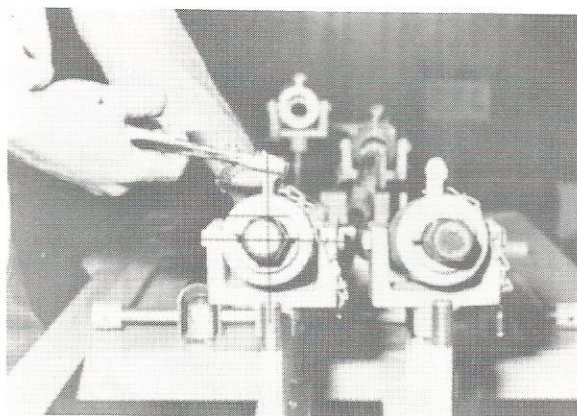

fig. 9
Note: On new tools, two sides of the shank hexagon are parallel to two of the four sides of the tool tip. If a moil point has been ground by hand, this alignment may have been altered. If this has been the case, position the side of the shank hexagon which is best aligned to one of the four sides of the tip, parallel to the grinding wheel surface. (See fig. 9.)
7. Tighten thumb screw. Use pliers and tighten firmly. To insure proper tightening, make sure that the split in the split halves is at 90° to the axis of the thumbscrew. (See fig. 9)